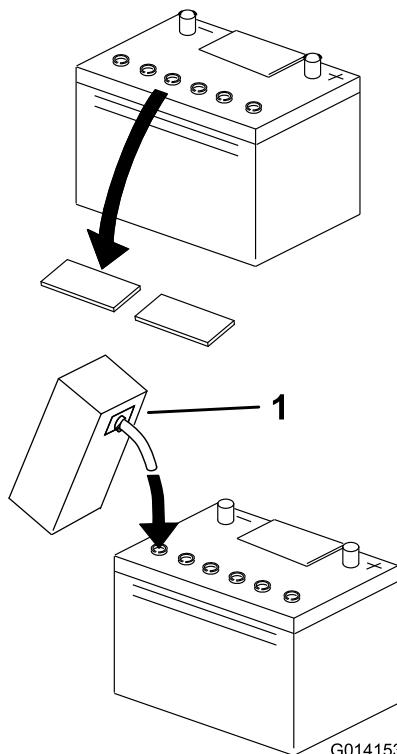

Figure 4
4. Clean the top of the battery and remove the vent caps (Figure 4).
5. Carefully fill each cell with electrolyte to the proper level (Figure 4).
9. If needed, fill each cell to the proper level (Figure 4).